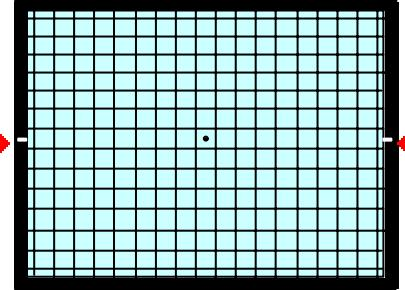

Fig.2-4 NTSC CROSS HATCH
2. Use the VOLUME + or - key on the remote controller to adjust and match the dot mark appearing in the center of the cross hatch screen and the CRT center mark. (Fig. 2-4)